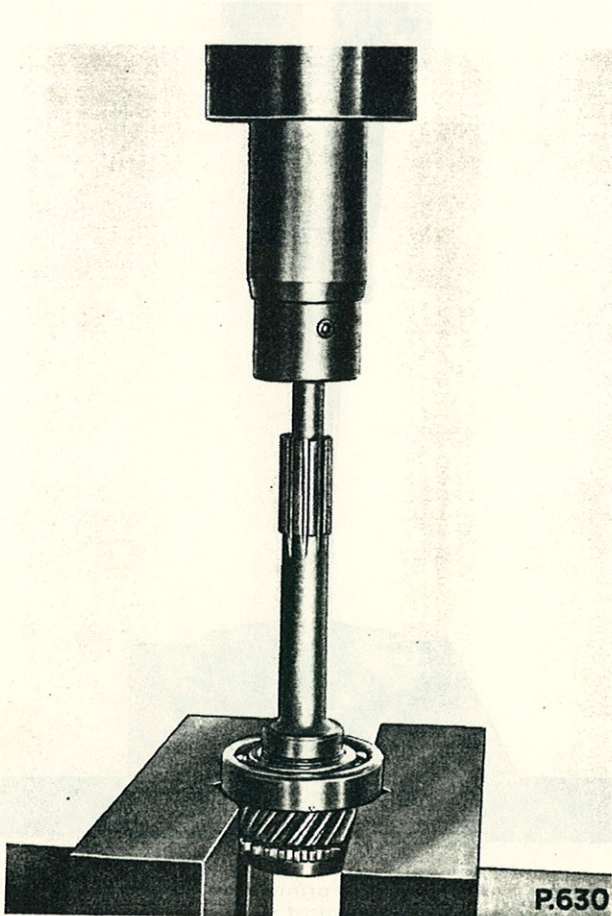

Fig. E.11. Pressing the bearing off the primary shaft
- (c) Remove the spring ring and the abutment washer retaining the bearing to the primary shaft and press off the bearing (see Fig. E.11).